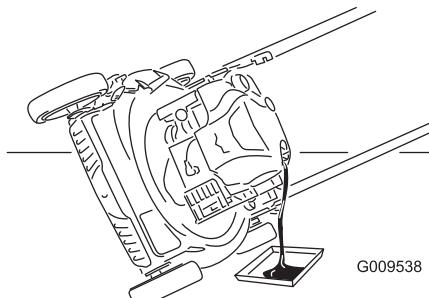

Figure 26
- Tip the machine onto its side with the air filter up to drain the used oil out through the oil-fill tube (Figure 26).